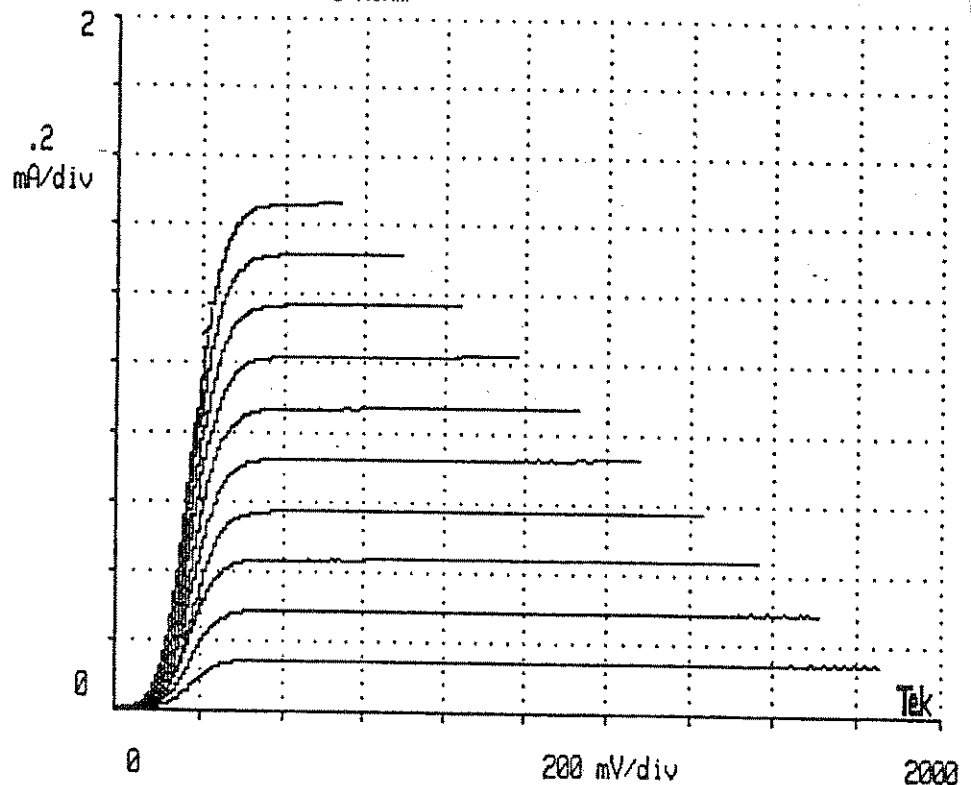

Figure 3-7: Loadline Curve
Step 3. Press START. The curves will end along the loadline representing a load of 1 k $\Omega$ . (Figure 3-7)